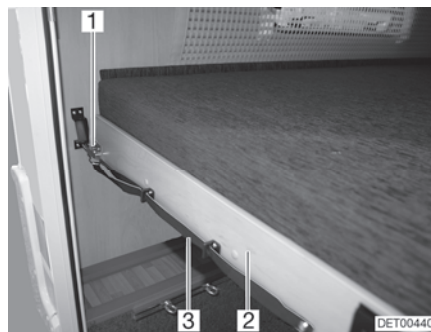

Fig. 77 Bunk bed (rear)
- Pull on the loop (Fig. 77,3) and release the latch (Fig. 77,1).
- Pull the slatted frame (Fig. 77,2) together with the mattress forward until it latches in place.